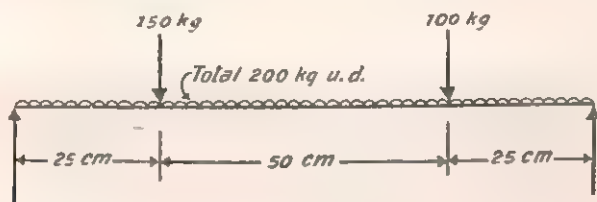

Fig. 75
9. A simply supported beam, 2.5 cm wide  $\times$  5 cm deep, is loaded as shown in Fig. 75. Calculate the frequency of its natural transverse vibration.  $E = 2 \times 10^8 \text{ kg/cm}^2$ . (Engineering Services, 1967)